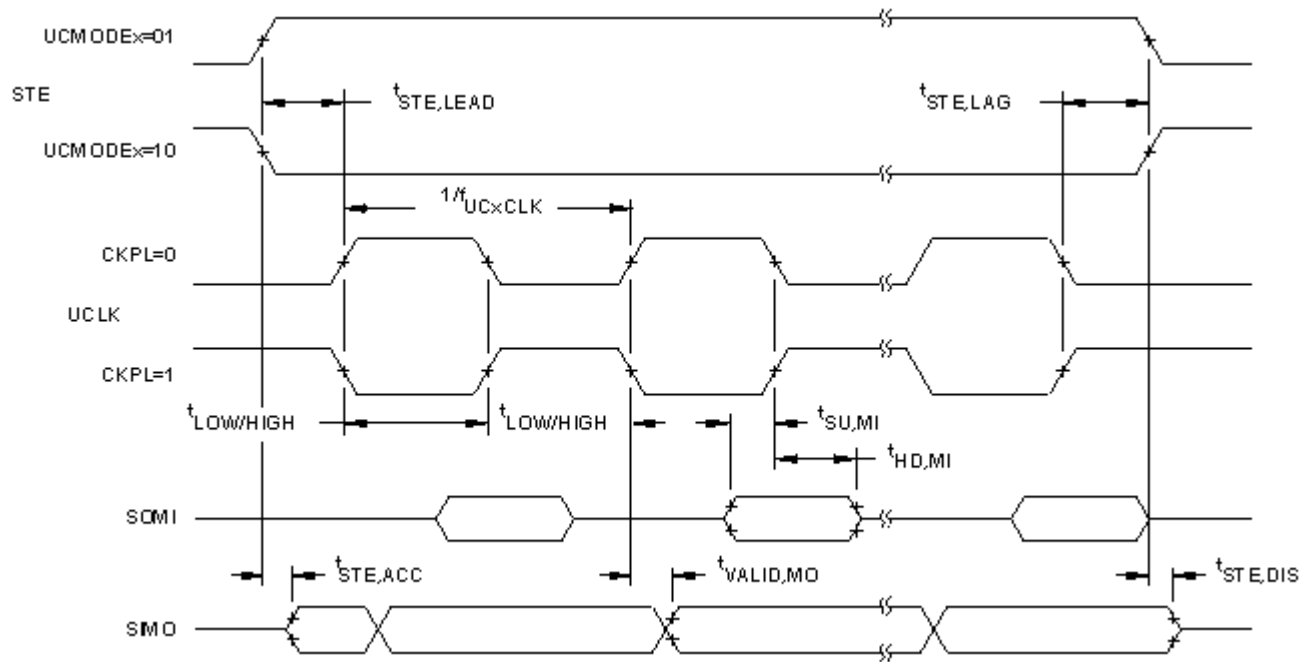
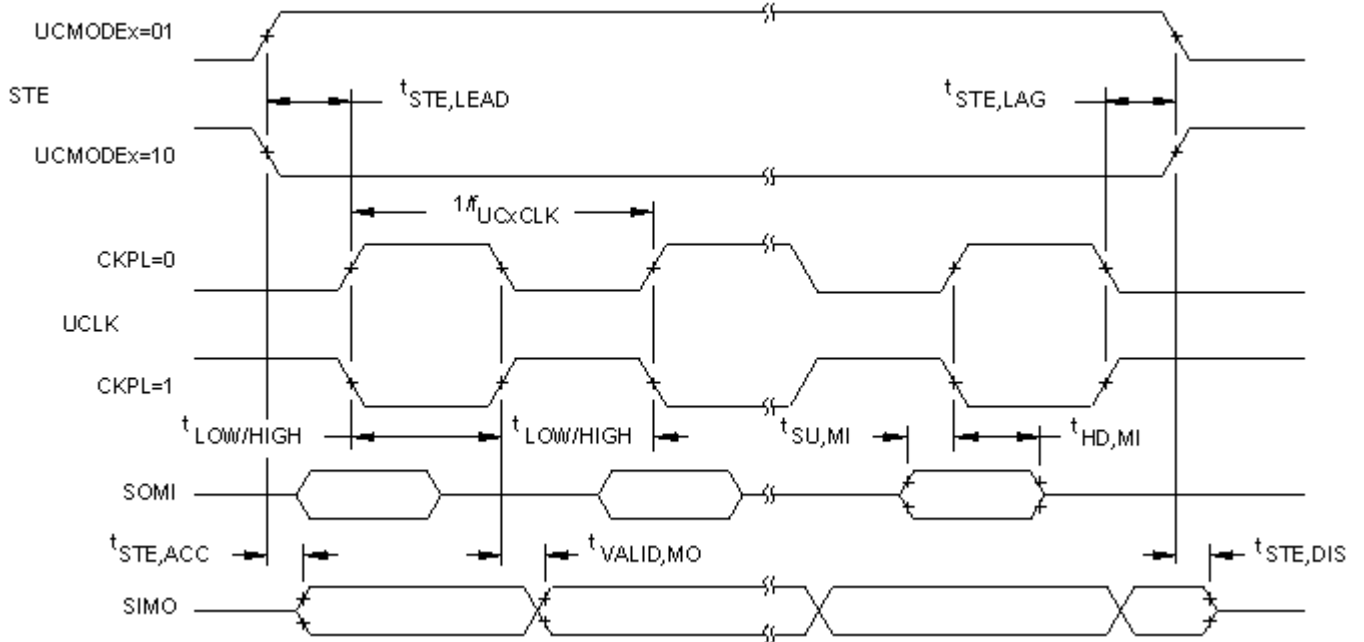

FIGURE 9. SPI Master mode, CKPH = 0.
FIGURE 10. SPI Master mode, CKPH = 1.
- 50/ Specifies the time to drive the next valid data to the SIMO output after the output changing UCLK clock edge. See the timing diagrams in FIGURE 9 and FIGURE 10.
- 51/ Specifies how long data on the SIMO output is valid after the output changing UCLK clock edge. Negative values indicate that the data on the SIMO output can become invalid before the output changing clock edge observed on UCLK. See the timing diagrams in FIGURE 9 and FIGURE 10.